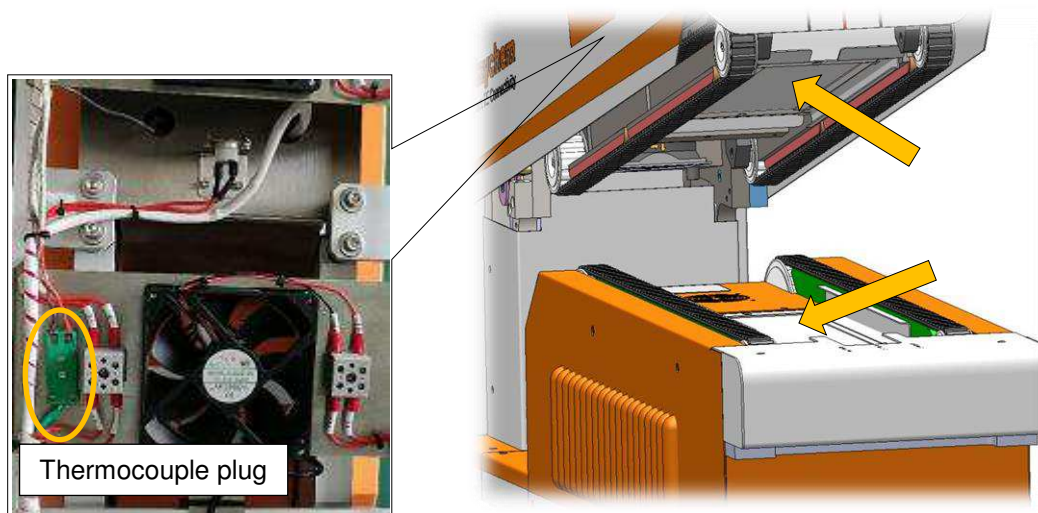

Fig.47 Heater
- Disconnect the thermocouple mini plug (Left picture in Fig.47 ) when replacing the upper heater